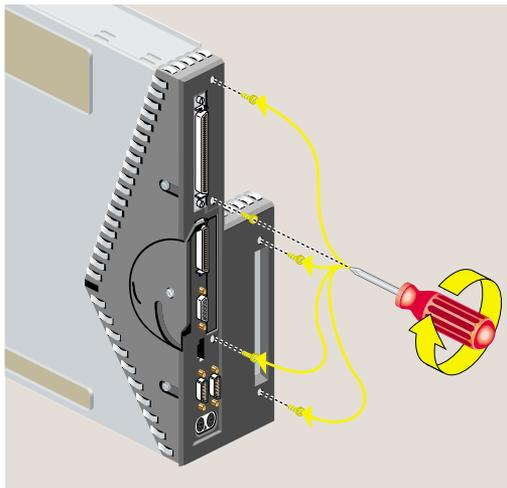

Figure 2-47 Replacing Five Screws on the Face Plate
4. Use a Phillips screwdriver to insert and tighten five screws on the rear in the locations shown (Figure 2-47).